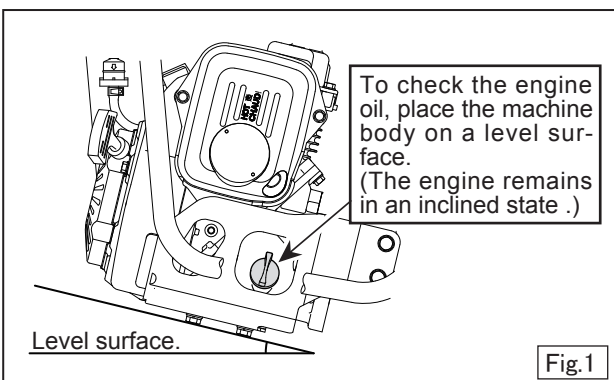

Fig.1
3. To check the engine oil, place the machine body on a level surface. (The engine remains in an inclined state.) (Fig.1)